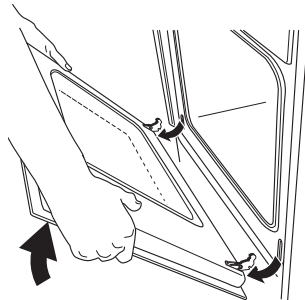

Fig. 3
4. hold the door by the side edges and close it slowly but not COMPLETELY (Fig. 3);
5. pull the door forward, removing it from its seat (Fig. 3);